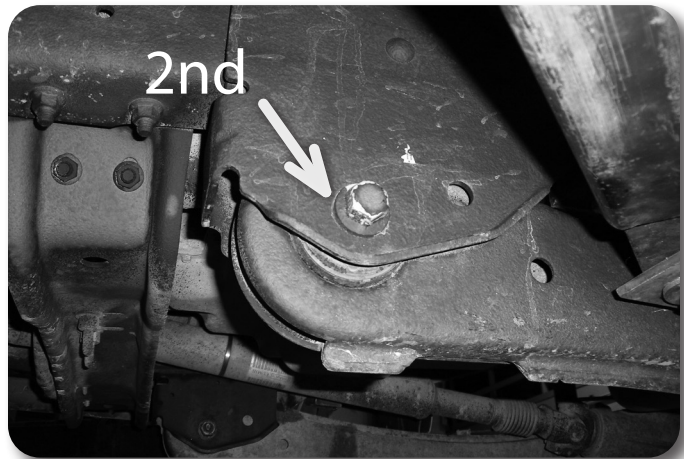

Figure 11
25. Starting with the passenger's side, 1st remove the upper radius arm mounting bolt at the axle. 2nd, remove the radius arm bolt at the frame and lower the radius arm from the frame bracket. Figure 11 Save hardware.